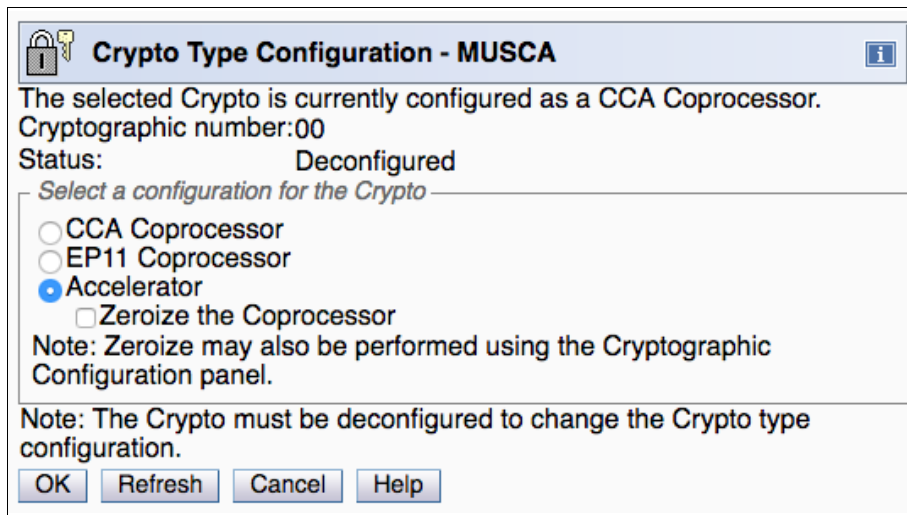

Figure 10-12 Crypto Type Configuration (CCA coprocessor to Accelerator)
4. Change the configuration for the cryptographic coprocessor adapter. The selected cryptographic coprocessor channel is configured as a coprocessor (see Figure 10-12). Select **Accelerator**.
The procedure for changing the type of the cryptographic configuration from an accelerator to a coprocessor is now complete. To change the accelerator back to a coprocessor, the same procedure can be used, but select **Coprocessor** instead of **Accelerator**, as shown in Figure 10-12 on page 230.
2. Because the reconfiguration is enabled only for PCIe adapters that are set to Off, be sure the PCIe Cryptographic adapter status for that cryptographic coprocessor channel is unconfigured (see Figure 10-12 on page 230).